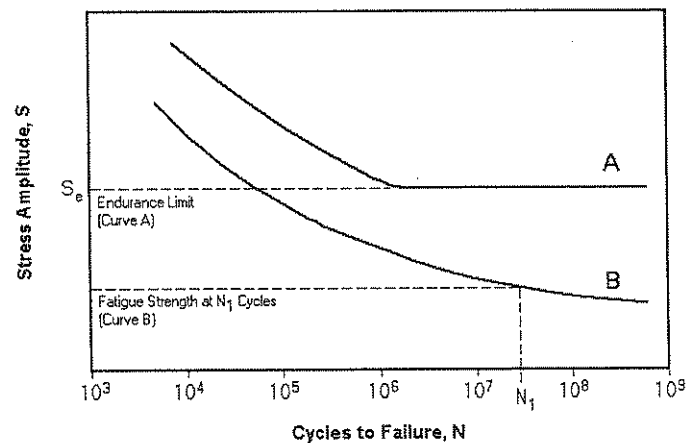

Figure 2
- iii. Briefly explain the **THREE (3)** stages in the ductile fracture of a metal. (6 marks)
- (b) By referring to Figure 2, explain about the fatigue behavior of ferrous and nonferrous metal.